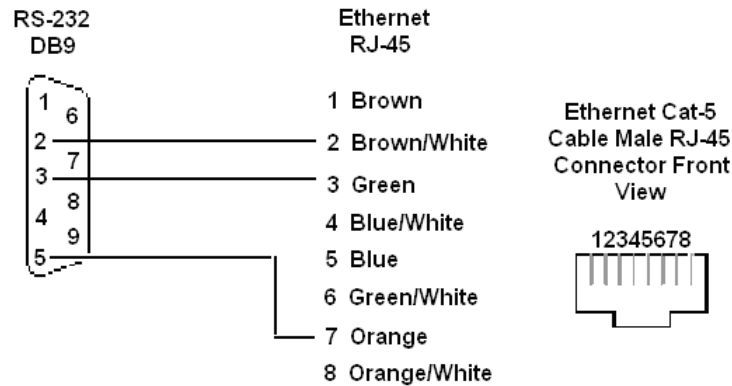

Figure 1.3 RS-232 Network Connection
- 5.2:** Connect the controller to the S+/S- and R+/R- terminals on the G7 drive's terminal block as shown in *Figure 1.3 – RS-422/RS-485 Connections*.